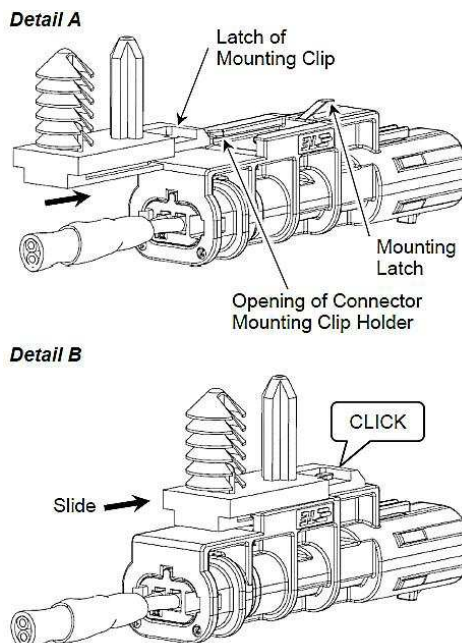

Figure 13
- i. Align the latch of the mounting clip with the opening of the connector mounting clip holder as shown in Figure 13, Detail A.
- ii. Slide the mounting clip into the mounting clip holder until the latches engage and there is an audible “click”. See Figure 13, Detail B. The connector is now ready to mount onto the panel.